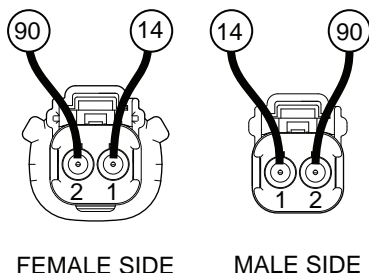

Figure 156. C3 Choke Solenoid Connector
2. Disconnect Wire 14 from the fuel solenoid (FS), fuel solenoid 2 (FS2), and the choke solenoid (CS).
5. Refer to Figure 156 in reference to the CS connector. Connect one meter test lead to Pin 1 and the other meter test lead to Pin 2, measure and record the resistance.
2. Disconnect Wire 14 from the fuel solenoid (FS) and the choke solenoid (CS).
4. Refer to Figure 156 in reference to the CS connector. Connect one meter test lead to Pin 1 and the other meter test lead to Pin 2, measure and record the resistance.